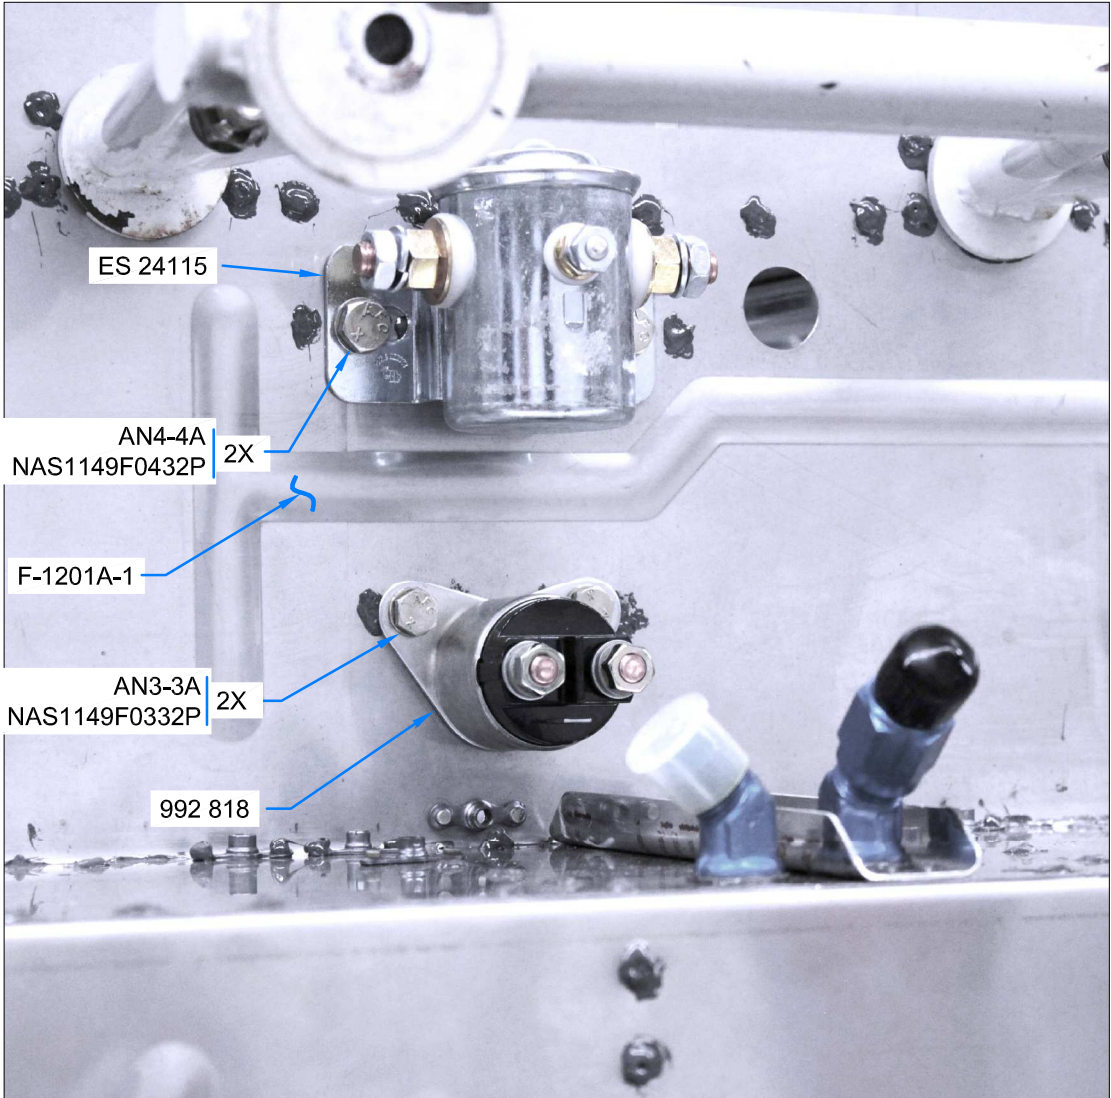

FIGURE 1: INSTALLING RELAYS
Step 1: (All) Install the ES 24115 and 992 818 to the F-01201A-1 Firewall Top using the hardware callouts in Figure 1.